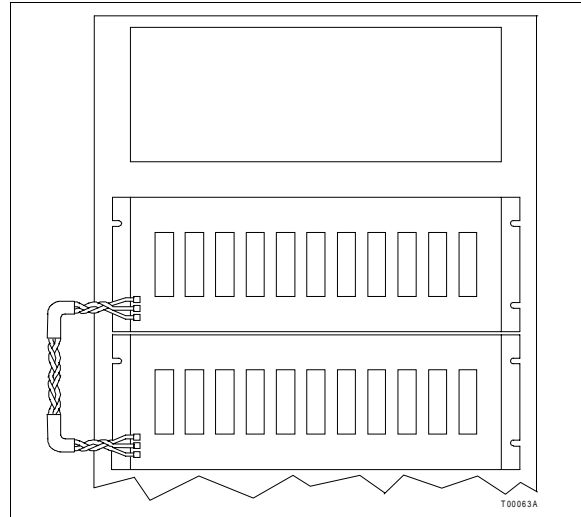

Figure 3-2. Controlway Cable Installation
1. Attach one end of the Controlway or module bus cable (twisted 3-wire) to the bottom three tabs on the lower left of the module mounting unit backplane (facing from behind). Refer to Figure 3-2.